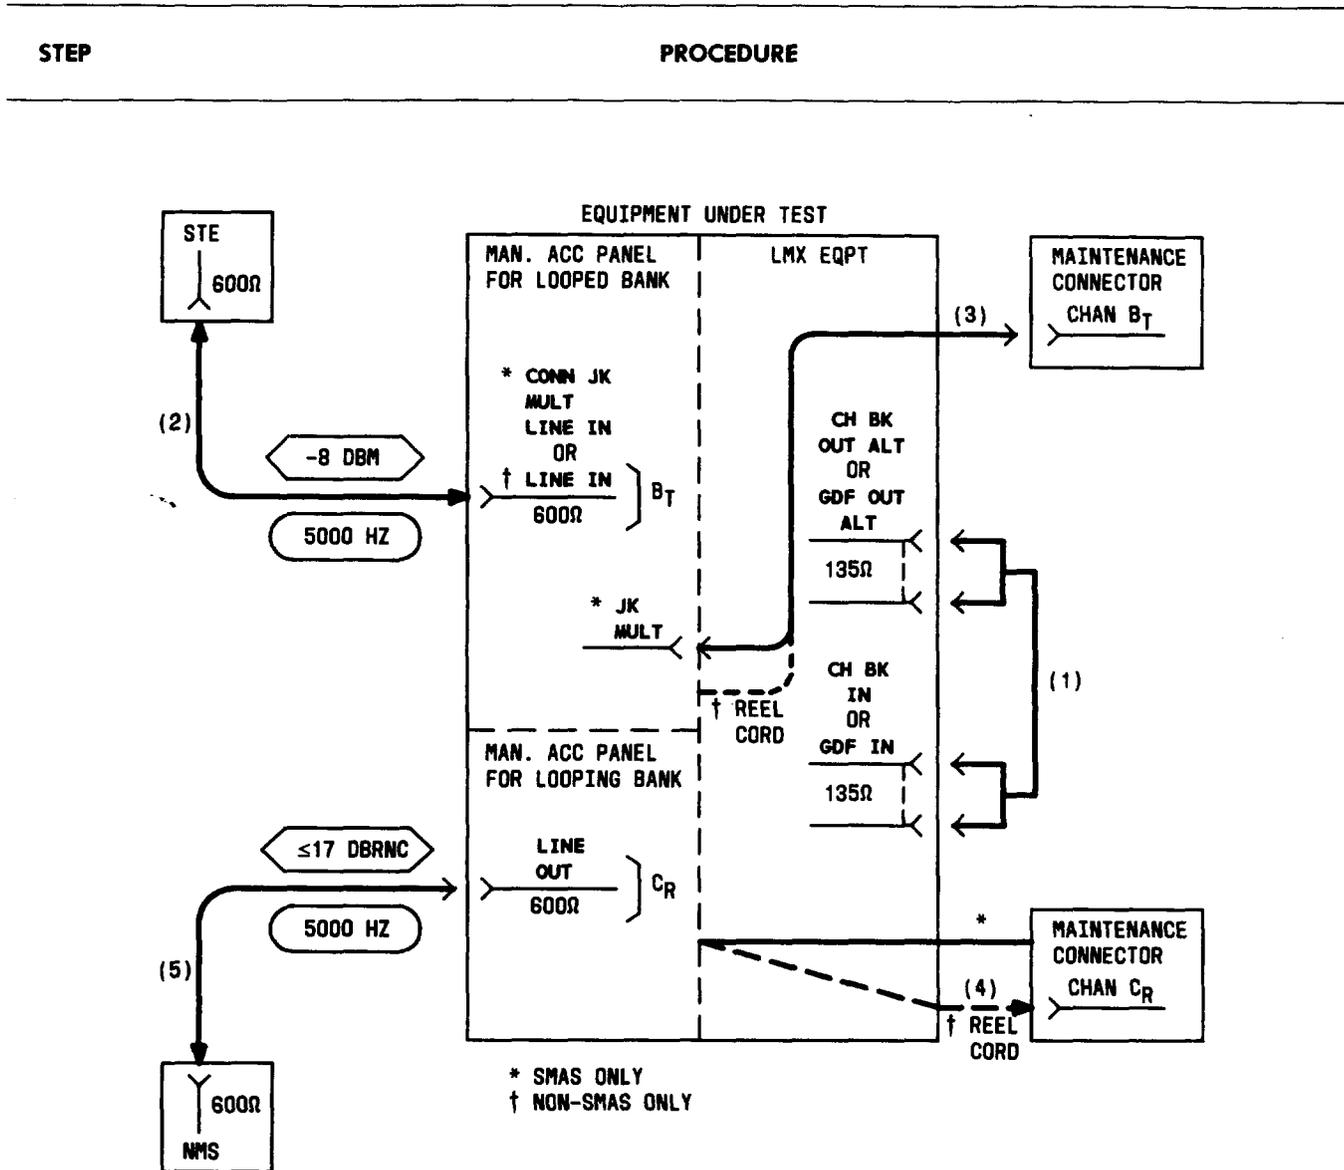

Fig. 25—Patching Diagram—Crosstalk Test—Unequal-Level Looping—Upper Adjacent Channel (5000 Hz)
34a*	Connect the JK MULT connector (on the 22AR or AT MAP) to the CHAN BANK connector (on the maintenance connector) for the looped channel designated Br for Test A in Table L [patch (3), Fig. 25].
- 34b† On the adjacent non-SMAS J98626() frame, connect the retractable cord (on the 22AU MAP) to the CHAN BANK connector (on the maintenance connector on the frame under test) for the **looped** channel designated B_T for Test A in Table L [patch (3), Fig. 25].
- 35b† Connect the retractable cord (on the 22AU MAP) to the CHAN BANK connector for the **looping**-channel position designated C_R for Test A in Table L [patch (4), Fig. 25].
37*	Connect the NMS to the LINE OUT jack [patch (5), Fig. 25].
41	Remove patch (3), Fig. 25 [and patch (4), if used] from the maintenance connector(s).
45	Remove patch (2), Fig. 25.
47†	Remove patch (5), Fig. 25.